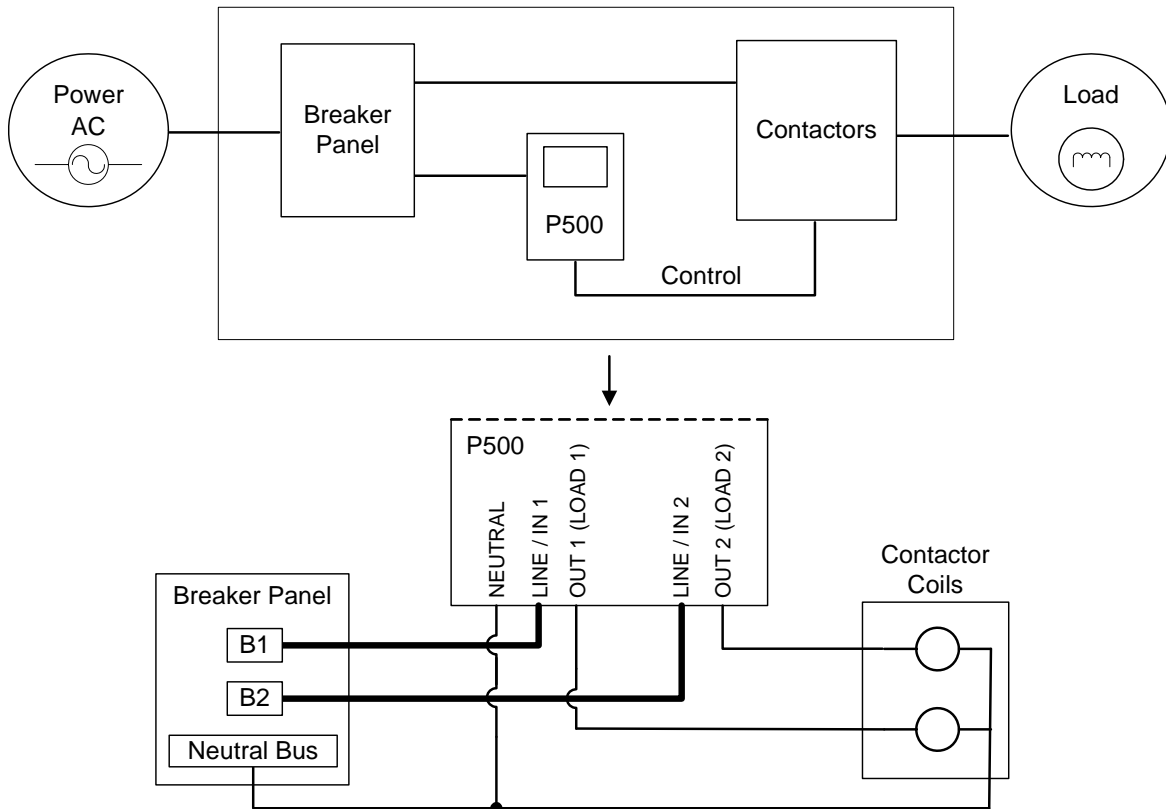

Figure 4
2. Connect power and load wires to the Profile P500 input/output wires provided for you as shown in Figure 4.